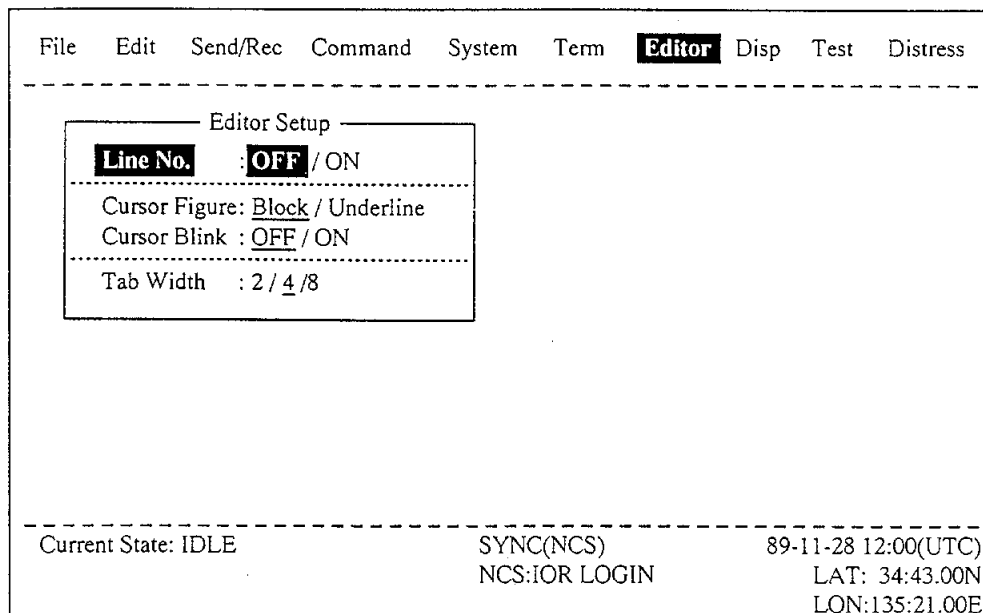

Figure 3-3 Editor Setup Menu
2. Figure 3-3 shows the factory settings (underlined). To change settings, use the up and down arrow keys to advance the cursor between lines and select settings with the right and left arrow keys. After selecting settings, press the **Enter** key.